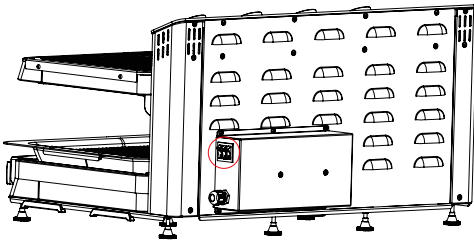
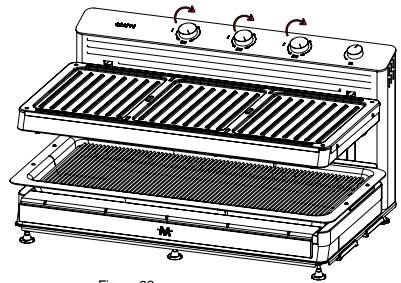

Figure 22
Figure 23
- If the switches are on (Figure 22), increase the power level using the power control knob (Figure 23).